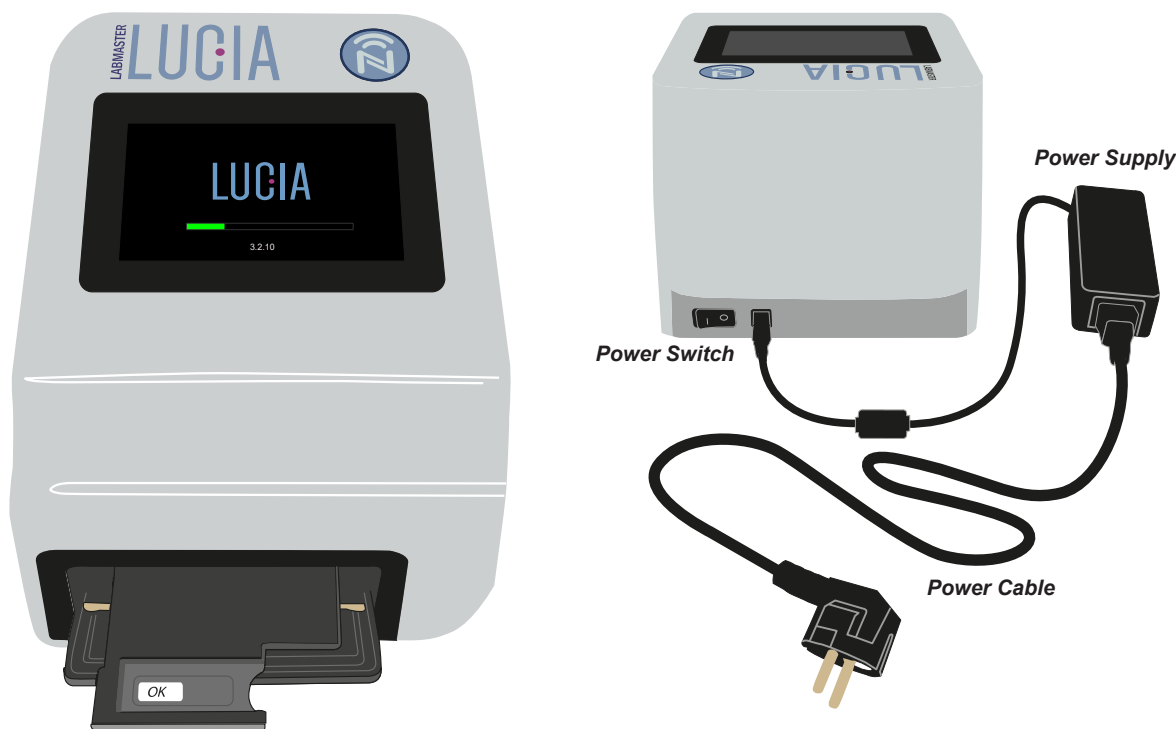

Figure 2. Labmaster LUCIA™ Analyzer
Refer to Figure 2 for electrical connection.
- Power on by using the power switch at the rear of the LUCIA Analyzer. See Figure 2.